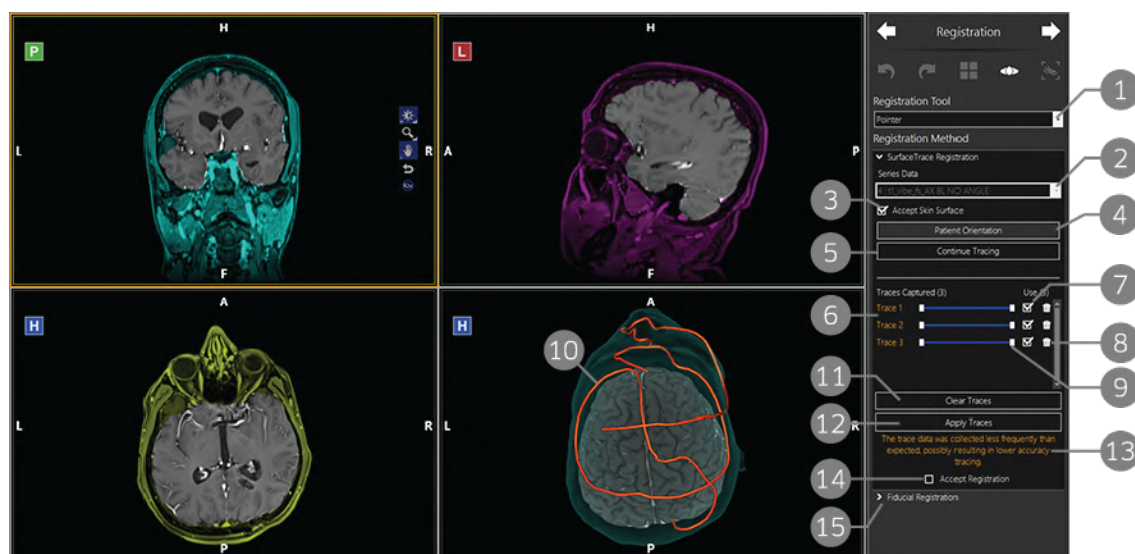

Figure 57 Registration phase workspace when performing SurfaceTrace registration
12. When you are satisfied with the quality of the registration, click the **Accept Registration** checkbox (item 11 in Figure 57 above) to proceed to the next phase.